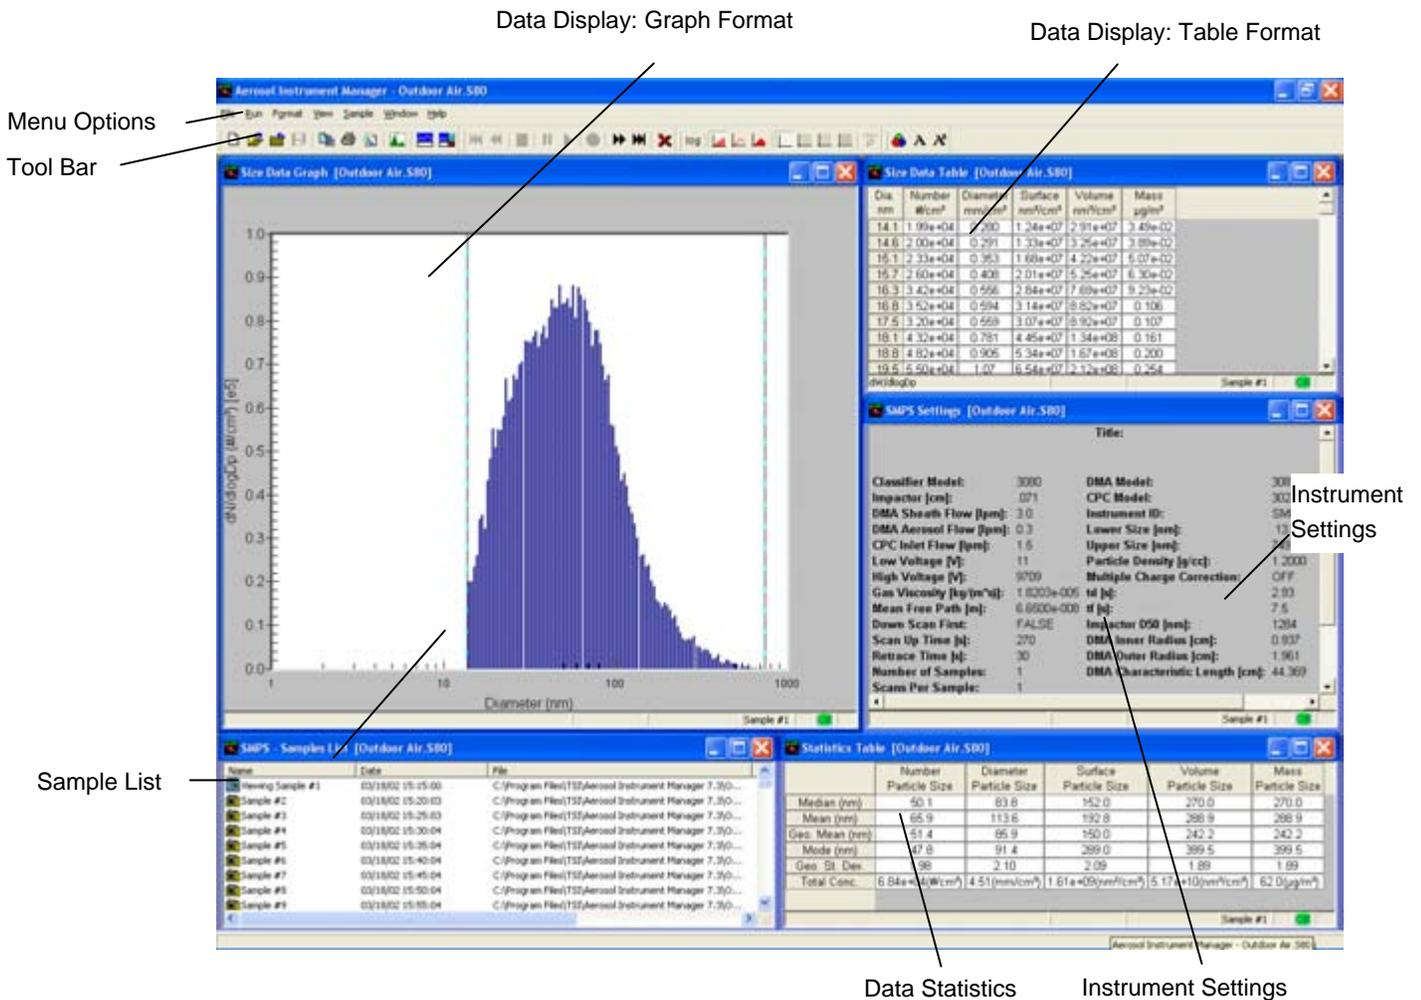

Figure 3-1
The Aerosol Instrument Manager® desktop appears as shown in Figure 3-1.
3. Select the data file that you want to open and click **Open**. At least two windows open on the desktop: a window containing a graph of the sample data, and the Samples List window (Figure 3-1).